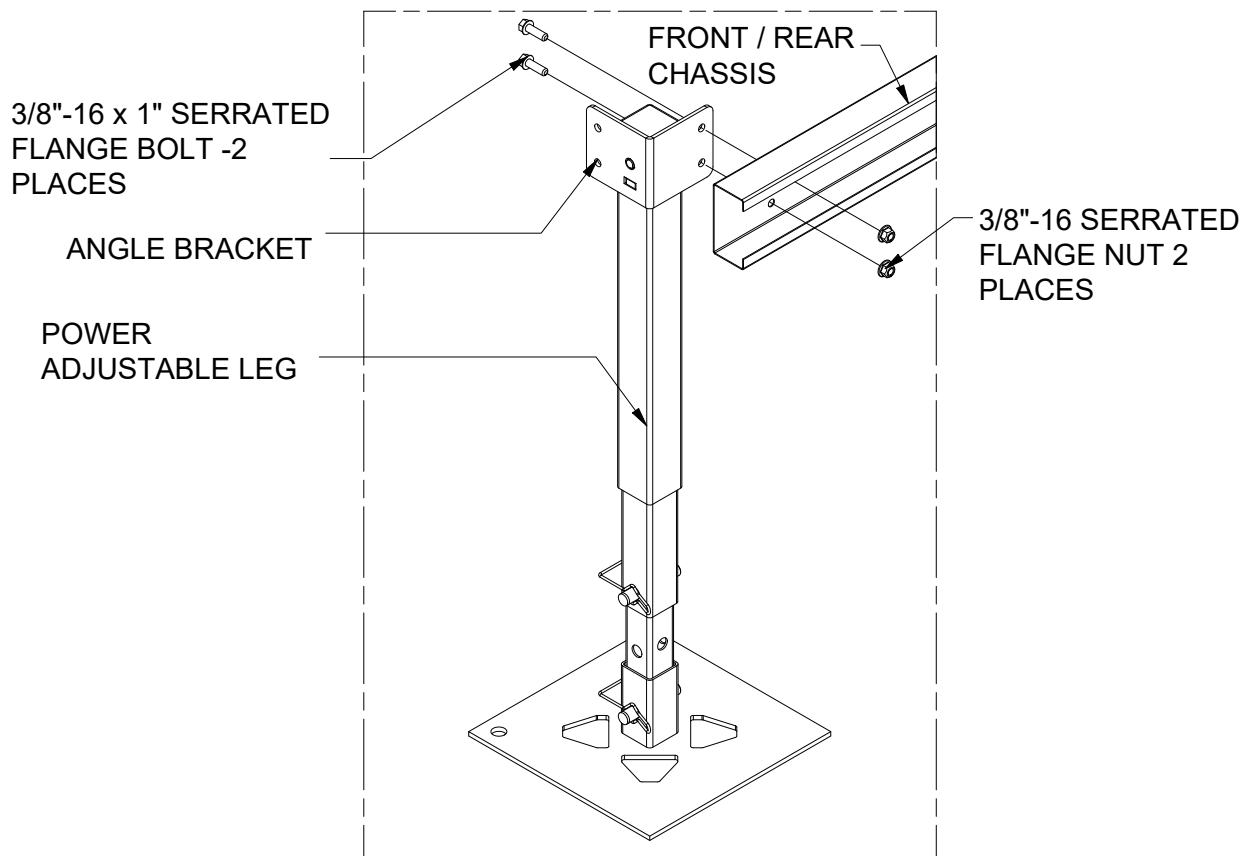

FIGURE 3: Front/Rear Chassis to Angle Bracket on Power Adjustable Leg
2. Next place the Front & Rear Chassis lengthwise at the location of the first Osprey PowerPlatform®. Attach to the Angle Bracket of the Power Adjustable Leg with (2) 3/8"-16 x 1" serrated flange bolts and nuts making sure to align the Leg as seen below for the outside corners. See Figure 3 below: